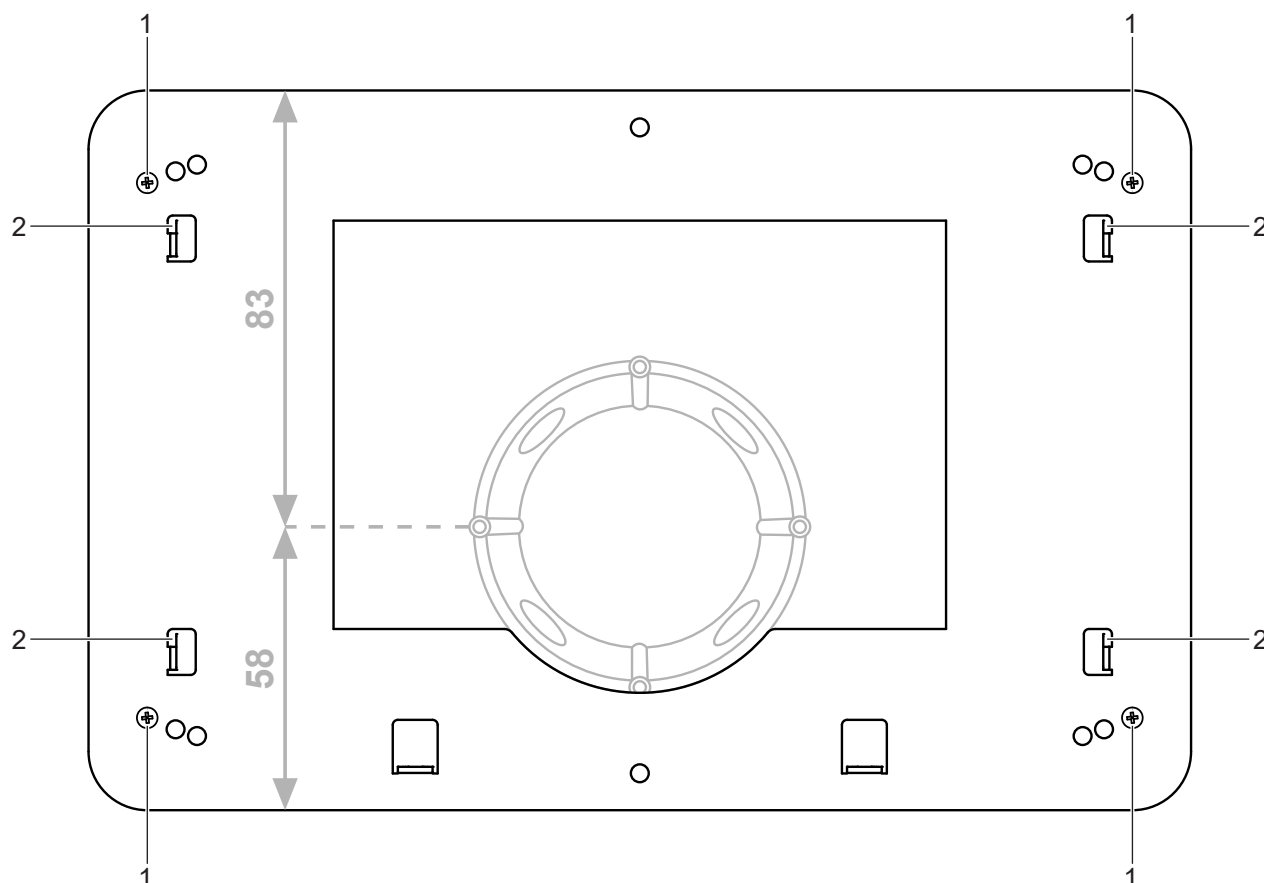
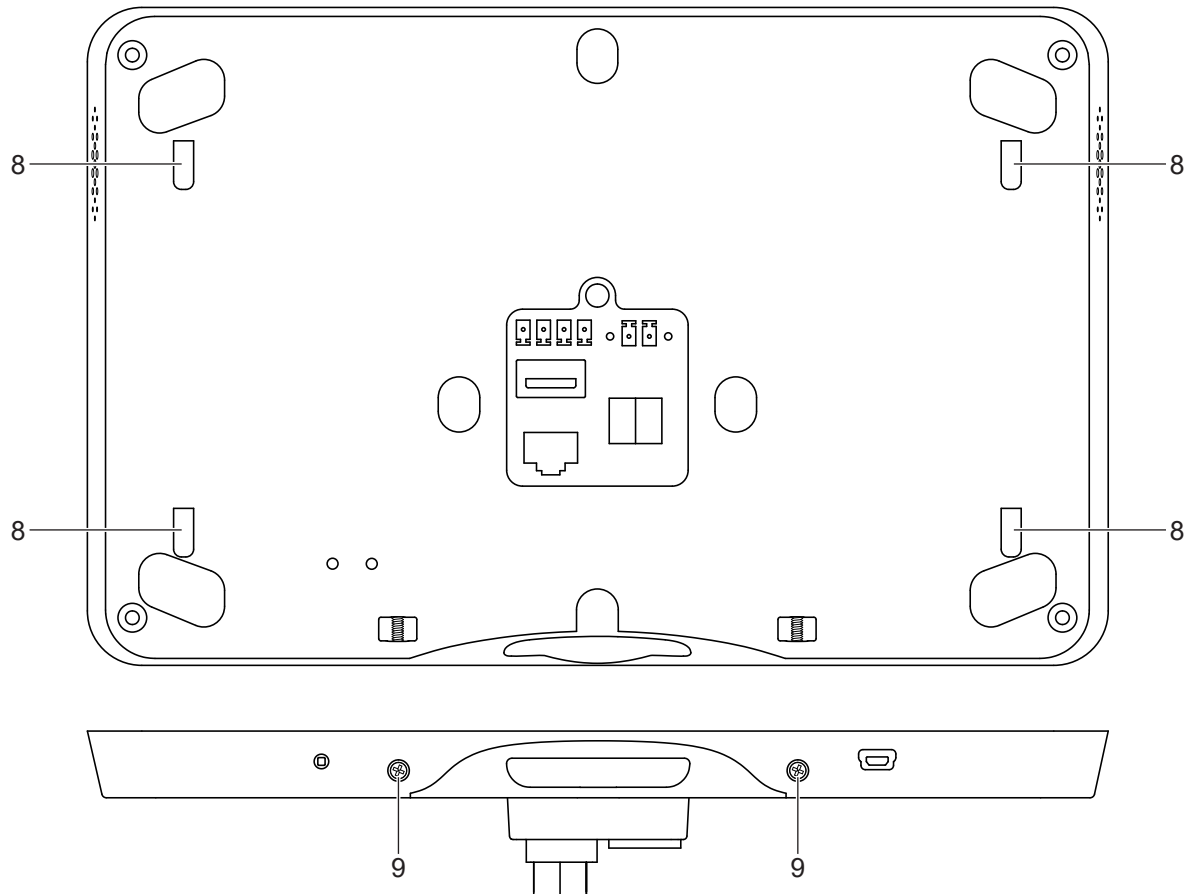

Fig. 2: Mounting adapter
Fig. 4: Mounting Smart Panel
- Mount the adapter on the installation box with a total of four locking screws (1). (fig. 2)
- Place the openings for wall mounting (8) on the Smart Panel on the fixing hooks (2) on the adapter. (fig. 2 and fig. 4)
- Fasten the Smart Panel to the adapter on the underside with a total of two locking screws (9). (fig. 4)